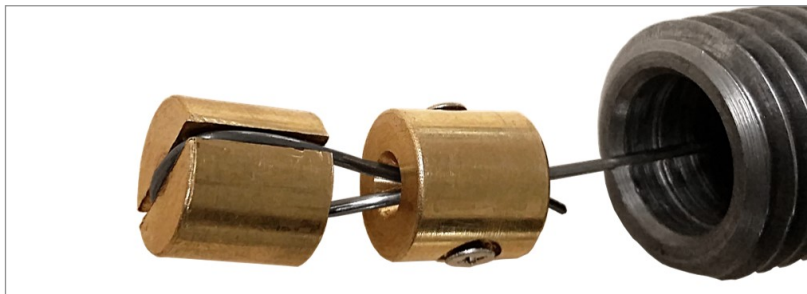

FIGURE 20: End Block and Wire Clamp Assembly
3. Loop the end of the stainless steel wire around the groove in the end block then slide it back through the wire clamp until it emerges on the other side. Push the wire clamp and the end block as close together as possible then tighten the two Phillips head screws to secure the wire in place. Figure 20 shows the completed end block and wire clamp assembly.